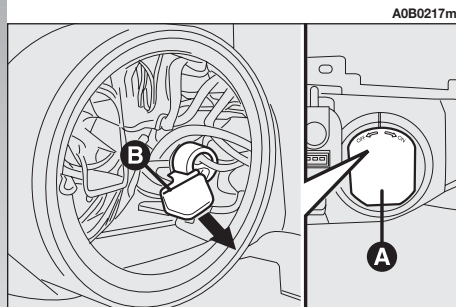

fig. 35
- Remove the protective cover (**A**-fig. 35).
- Remove the bulb holder (**B**-fig. 35) which is snap-fitted.
- Refit the protective cover correctly (**A**-fig. 35).